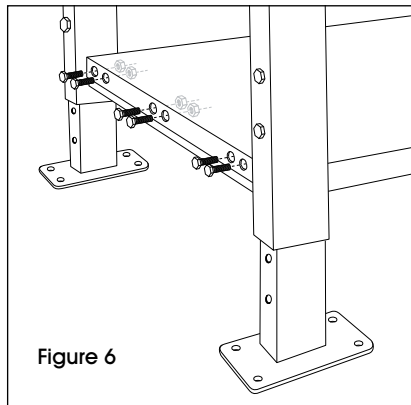

Figure 6
2. Fasten end of each shelf piece to the leg brace of the outside legs with six M8 x 35 hex bolts and six M8 nuts per shelf using a 13 mm wrench. (See Figure 6)